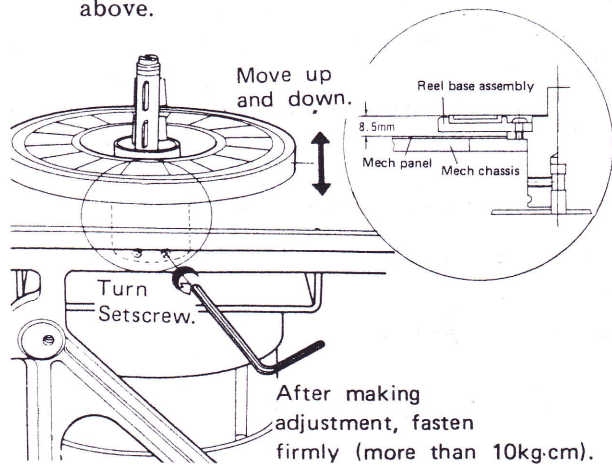

Fig. 18
2. Loosen screw to allow a clearance of 8.5mm between the mech panel and reel base as in Fig.18.